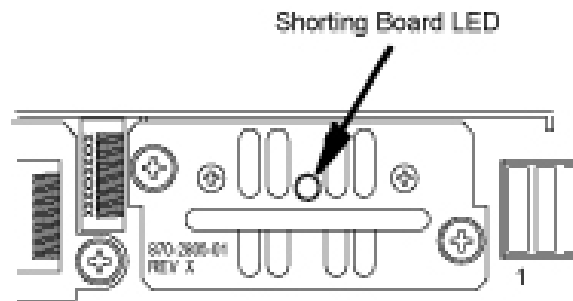

Figure 7: Shorting Board Faceplate, Normal Mode
- Turn the Shorting Board over and reinsert the board into its slot. Note the orientation of the Shorting Board LED (see Figure 7: Shorting Board Faceplate, Normal Mode).